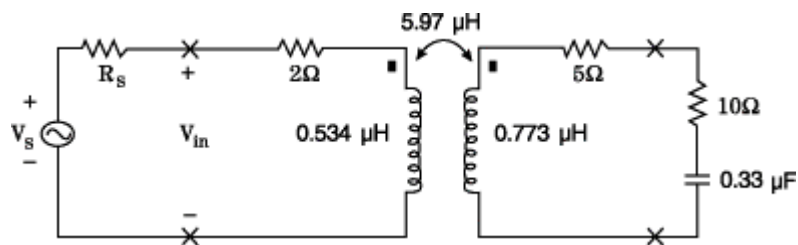

Figure 2: Loaded Linear Transformer
- 1) For this lab the internal resistance of the function generator, R_s , must be determined exactly. Inductances are difficult to measure correctly (even with specialized equipment), so accuracy will become especially important in your calculations of component values. A simple model of the function generator is an independent voltage source with a series resistor (see the left side of figure 2). However, R_s is effectively inside the function generator box, so you cannot directly measure it with an ohmmeter. Keeping this in mind, develop an experimental method to determine the value of R_s . (Hint: Think about how a voltage divider works.)
- 4) Consider the linear transformer given in figure 2 below. Given that the frequency of the input is $f = 500$ kHz, $R_s = 50 \text{ } \Omega$, and the voltage at $V_s = 1$ Vp find: